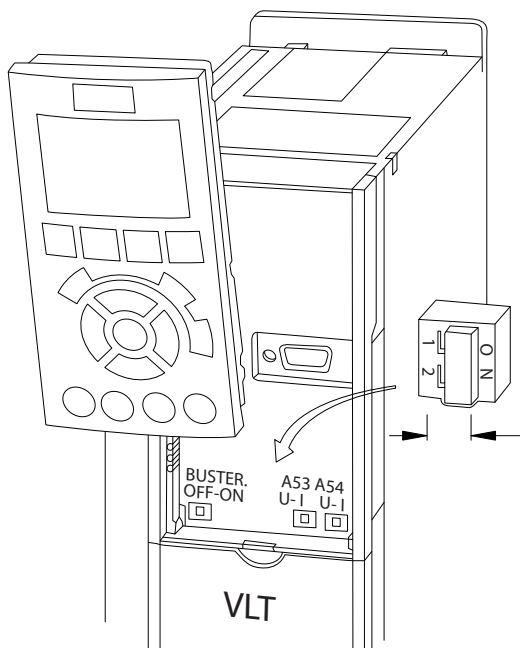

Figure 4.26 Location of Terminal 53 and 54 Switches
1. Remove the LCP (local control panel) (see Figure 4.26).